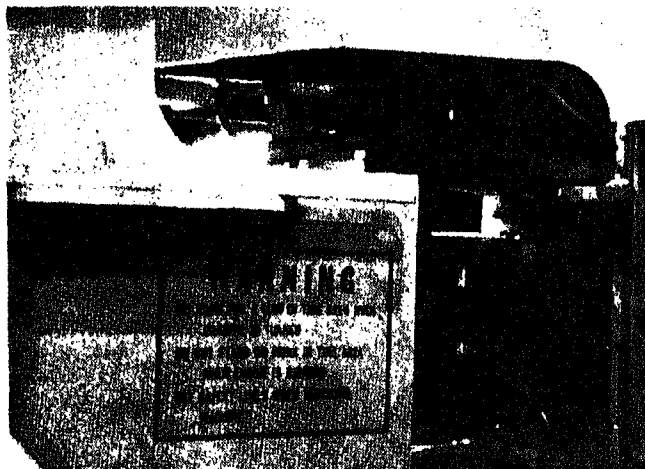

Fig. 4. Safety Links — Carried Position
**LOCATION:** The safety links are mounted and carried on each side of the front frame section. (See Fig. 4)